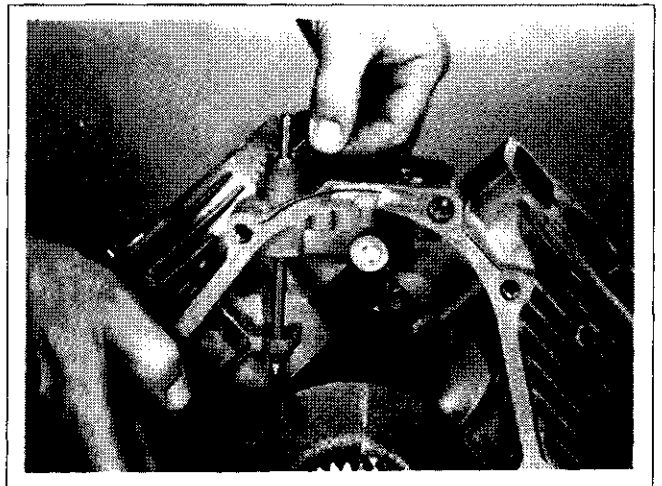

Figure 9-66. Removing Governor Cross Shaft Hitch Pin.
1. Remove the hitch pin and plain washer from the governor cross shaft. See Figure 9-66.